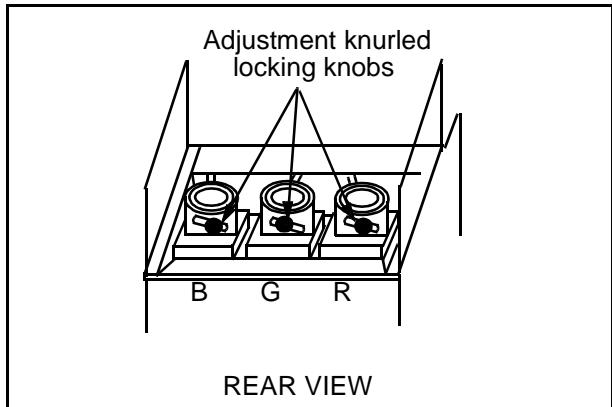

Figure 25. Optical Lens focus Adjustment
1. Optical focus adjustment is located on the top of each CRT lens system. Loosen the adjustment knurled locking knob. (Figure 25)